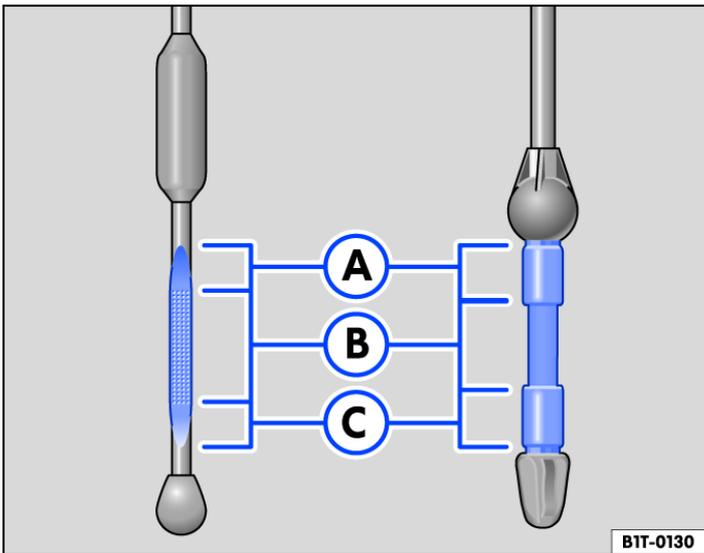

Fig. 1 Oil dipsticks with markings (variants).
Key to → Fig. 1:
4. Identify the engine oil filler cap and oil dipstick. The engine oil filler opening can be recognised by the symbol  on the cap and the oil dipstick has a coloured handle → Fig. 1. If you cannot find the cap and oil dipstick, please contact a qualified workshop.
7. Pull out the oil dipstick again and read the engine oil level on the dipstick as follows → Fig. 1:
- (A) Do not fill engine oil → ⚠. Continue with step 16.
- (B) Engine oil level OK. The engine oil may be filled up to the upper limit of this area, for instance, if the engine is subjected to high loads. Continue with step 8 or 16.
- (C) Engine oil level too low. It is essential to fill engine oil. Continue with step 8.